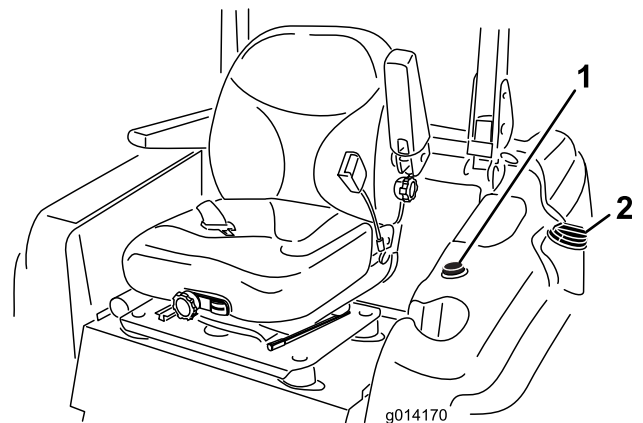

Figure 15
3. Clean around the fuel-tank cap and remove the cap (Figure 15).